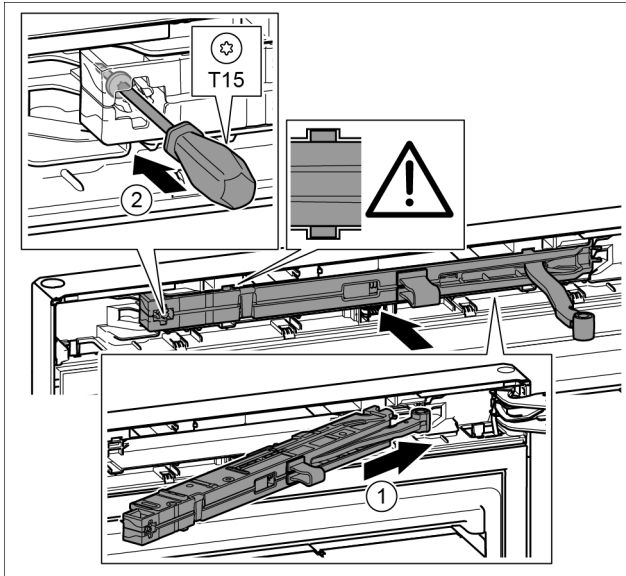

Fig. 48
- ▶ Slide the soft stop mechanism on the bearing bracket side at an angle into the slot as far as the limit stop. Fig. 48 (1)
- ▶ Tighten the screw with the T15 screwdriver. Fig. 48 (2)